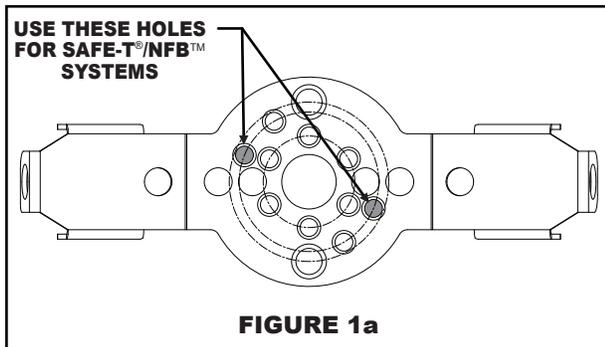

FIGURE 1a
**Step 2.** Using the guide provided, mark the plastic bezel and drill two 3/16" diameter holes (see Figure 1a). NOTE: IF YOUR BEZEL ALREADY HAS RECESSED HOLES AT THESE LOCATIONS, THEN NO DRILLING OF THE BEZEL IS NECESSARY.